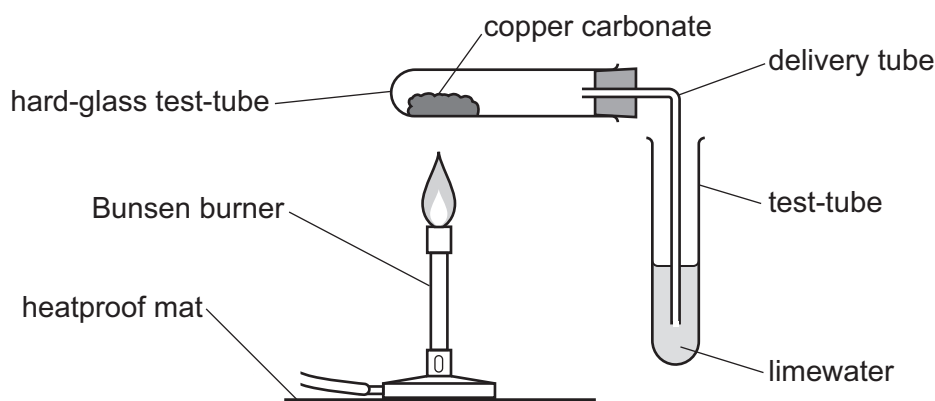

Fig. 3.1
- Attach the delivery tube and stopper to the hard-glass test-tube as shown in Fig. 3.1.
- Place the delivery tube into the limewater as shown in Fig. 3.1.